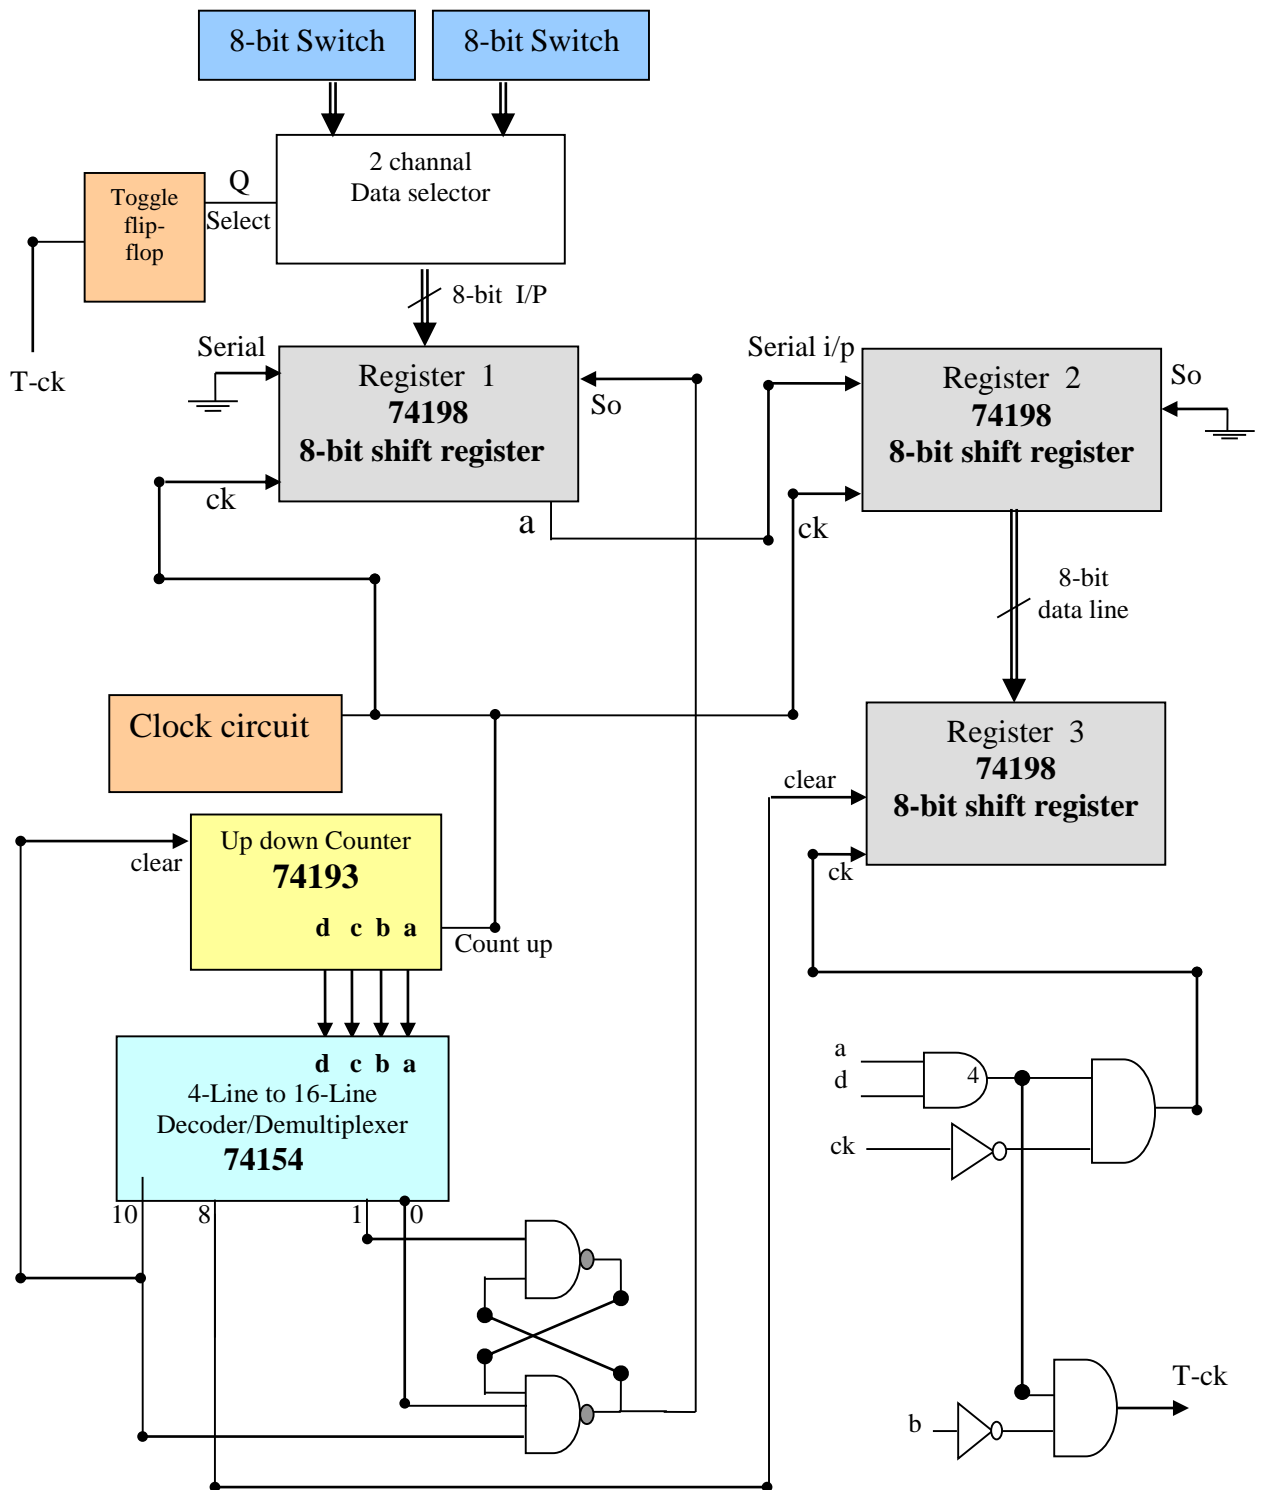

Fig.3 : Parallel in serial out/Serial in parallel out (PISO)
- 1) Connect the circuit shown in Fig.3.